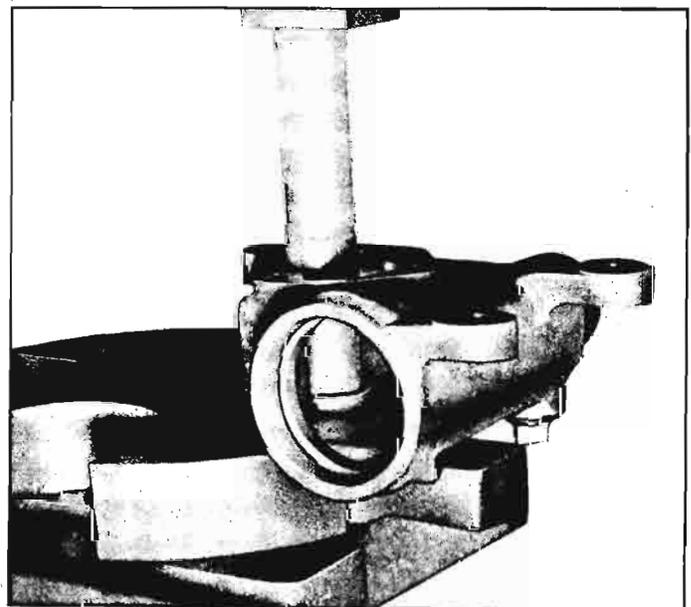

Fig. 4-47—Pressing Bushing with J-1614
1. Support steering gear housing in an arbor press and press sector shaft bushing from housing with Tool J-1614, inserted from lower end of housing as shown (fig. 4-47).